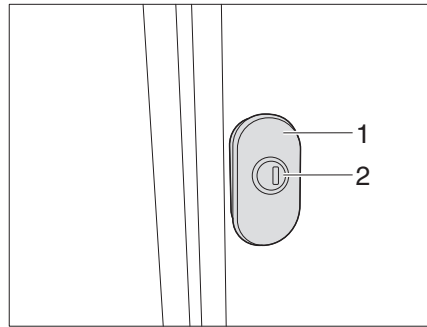

Fig. 30 Turnbuckle lock (variant 1)
- Insert the key into the locking cylinder (Fig. 30/31,1) and turn a quarter turn. The flap lock is unlatched.
- Pull on the turnbuckle lock (Fig. 30/31,2) and rotate anticlockwise through 180°. The external flap is open.